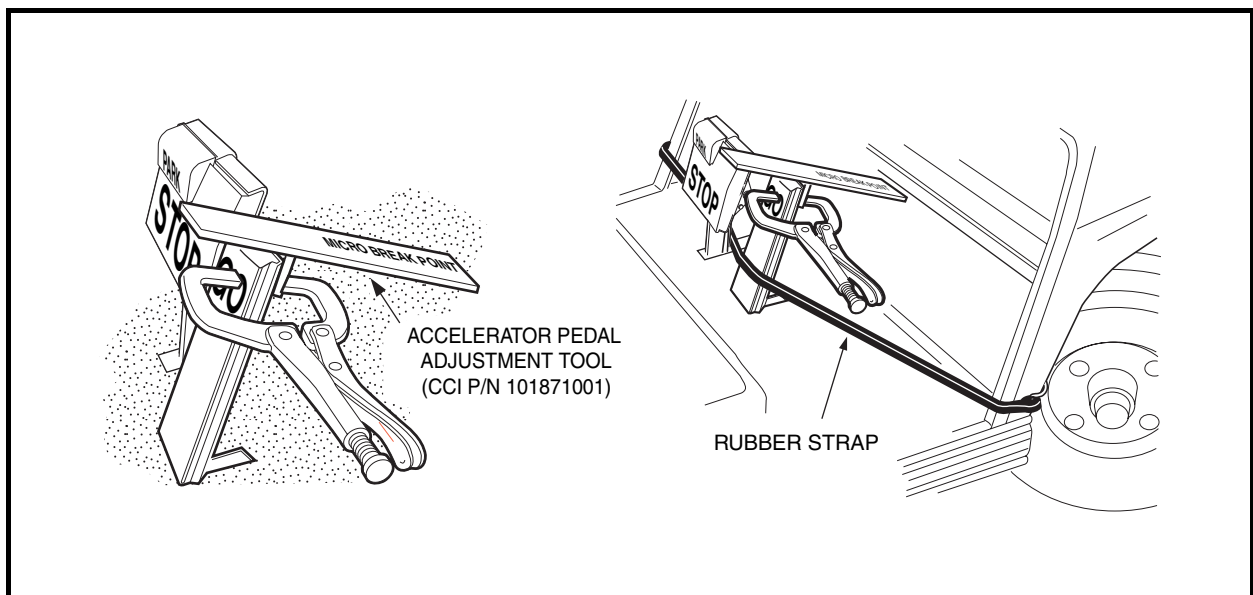

Figure 5-29 Accelerator Pedal Height Adjustment
- 5.2. Clamp the accelerator pedal adjustment tool (CCI P/N 101871001) to the accelerator pedal, with the end marked *accelerator pedal height* closest to the floorboard (Figure 5-29, Page 5-19). Press the accelerator pedal until the end of the tool rests against the floorboard; pedal height should be 5-5/8 inches (14.3 cm). Use a rubber strap to hold pedal in position against the floorboard and then tighten nut to 26 ft-lb (35.3 N·m).